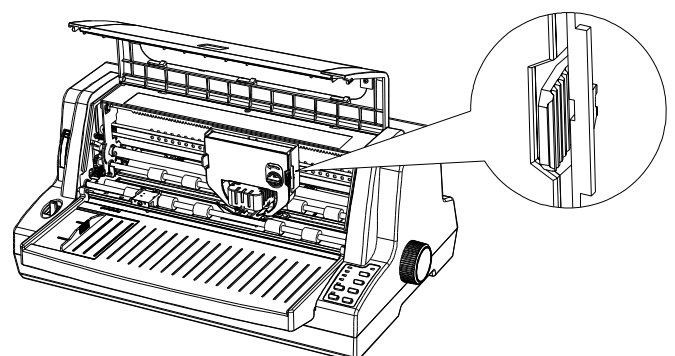

Figure 7
- ◆ According to the Figure 7, set the ribbon between the print head and the platen and press the cartridge to the right position. Please make sure that it is fixed to the grooves firmly by its clips on both sides.